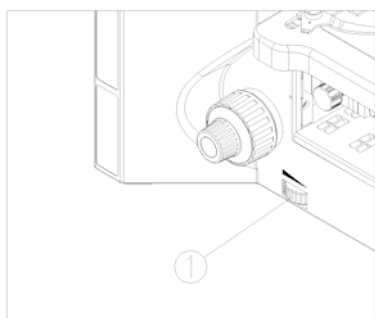

Fig. 11
- (1) Turn on the microscope. (see Fig. 11)